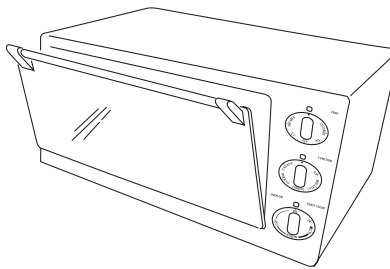

fig. 1
- Place the food to be grilled on the broil rack (Q) inserted on the bake pan (H), and place them together in the guide 1.
- Close the door until you hear a “click” (see figure 1).
- Turn the function selector knob (D) to the BROIL or BROIL & ROTIS position.
- Turn the Timer knob (B) to the “ON” position.
- When cooking is completed, turn the Timer knob (B) manually to the “OFF” position.
- Turn the thermostat knob (A) to position TOAST/BROIL.
- Turn the function knob (D) to position BROIL & ROTIS.
- Turn the timer knob (B) to the “ON” position.